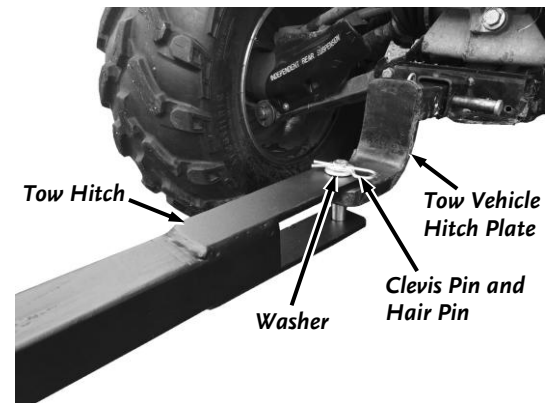

Figure 23
2. Align the Tow Hitch to the tow vehicle Hitch Plate with the top portion of the Tow Hitch above the Hitch Plate and the bottom portion below (**Figure 23**).